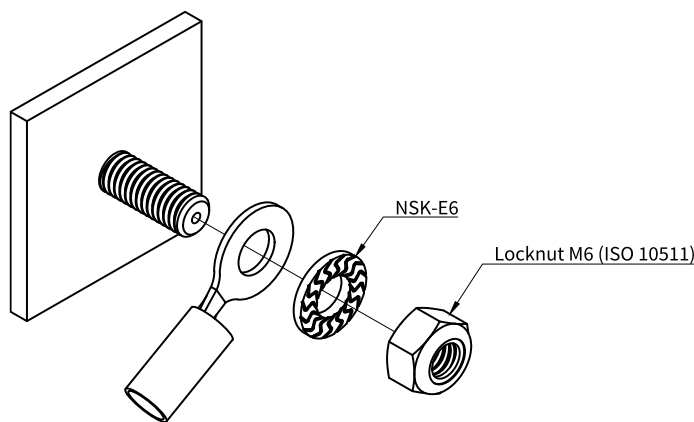

Figure 14 **Earth Cable Mounting on Earth Stud**
- Mount the earth cable as shown in Figure 14.